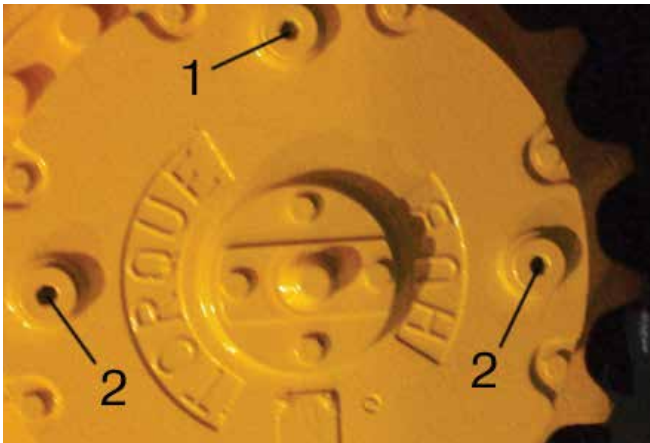

Figure 5-4. Torque Hub Plug Orientation
1. The torque hub is positioned so the center plug (**Figure 5-4,1**) is at the twelve o'clock position. Remove the plug either at the three or nine o'clock position (**Figure 5-4,2**). If oil comes out, no oil is needed. Insert plug and tighten. If oil does not come out, remove the plug at the 12 o'clock position and fill torque hub with specified gear oil (**see "Lubricant Specifications" on page 2-10**) until oil starts to appear at the other hole. Replace both plugs and repeat process on other torque hub.